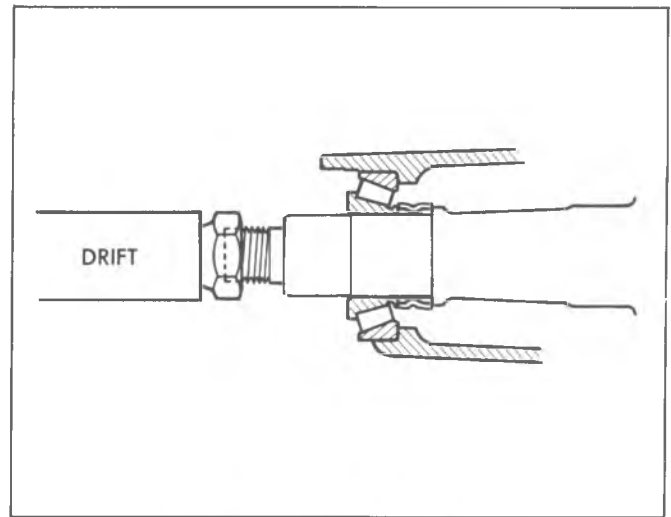

Fig. 14B--Removing Drive Pinion
8. Tap the end of the pinion nut with a large hammer and a soft drift, as shown in figure 14B.